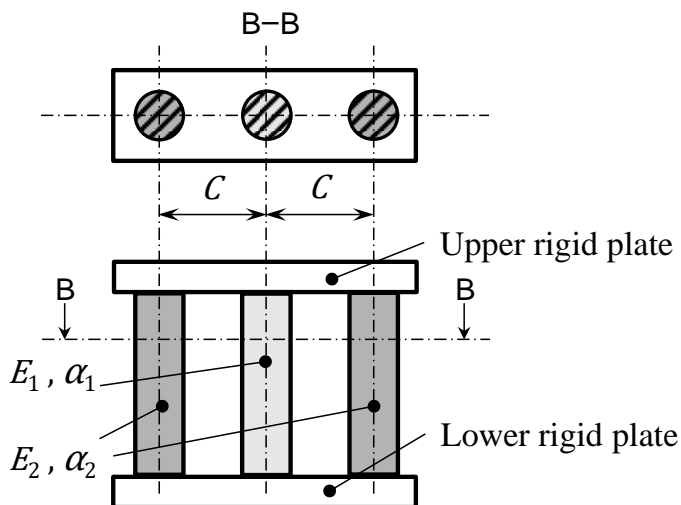
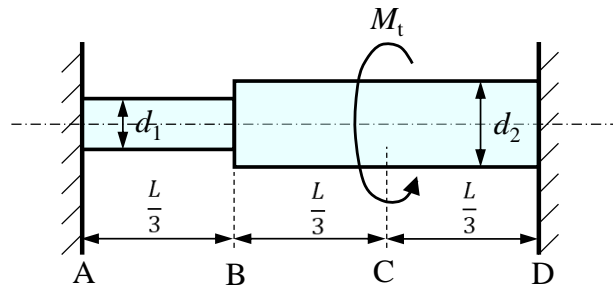

Fig. 1
Fig. 4
1. There are three columns whose cross-sectional area is A_0 and whose natural length at temperature T_0 is L_0 . These three columns are bonded to the rigid plates at the top and bottom ends, as shown in Fig. 1. The column located in the center of the rigid plate has a longitudinal modulus of elasticity of E_1 and a linear expansion coefficient of α_1 , while the two columns located at distance C on both sides of the central column have a longitudinal modulus of elasticity of E_2 and a linear expansion coefficient of α_2 . Here, $0 < E_1 < E_2$ and $0 < \alpha_1 < \alpha_2$. Ignore the self-weight of the columns and rigid plates. Answer the following questions.
3. Consider a stepped solid circular shaft shown in Fig. 4. The diameter and length of section AB are d_1 and $L/3$, and those of section BD are d_2 and $2L/3$, respectively. d_1 is smaller than d_2 . The shaft is fixed at the both ends, A and D, to vertical rigid walls. The shear modulus of the shaft material is G . As shown in Fig. 1, the shaft is twisted by the torsional moment M_t at position C, midpoint of section BD. Answer the following questions. Describe also the processes of deriving the answers. Ignore stress concentration.